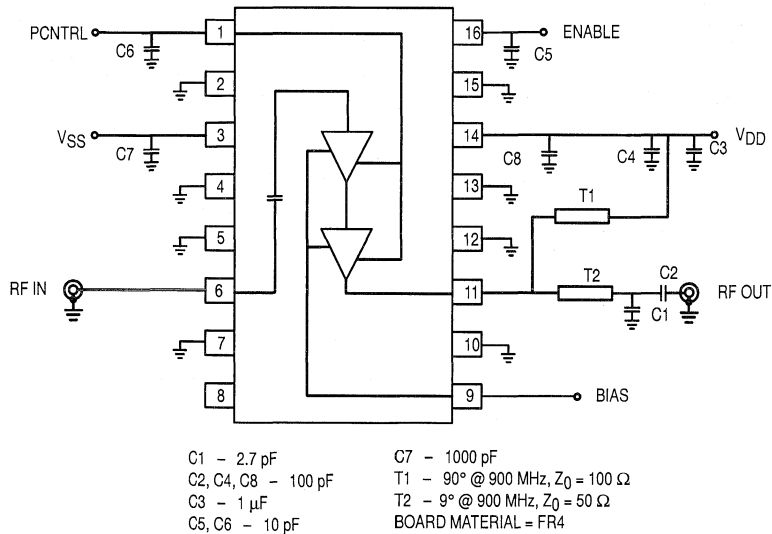

Figure 1. Applications Circuit Configuration
(1) All electrical Characteristics are measured in test circuit schematic as shown in Figure 1.